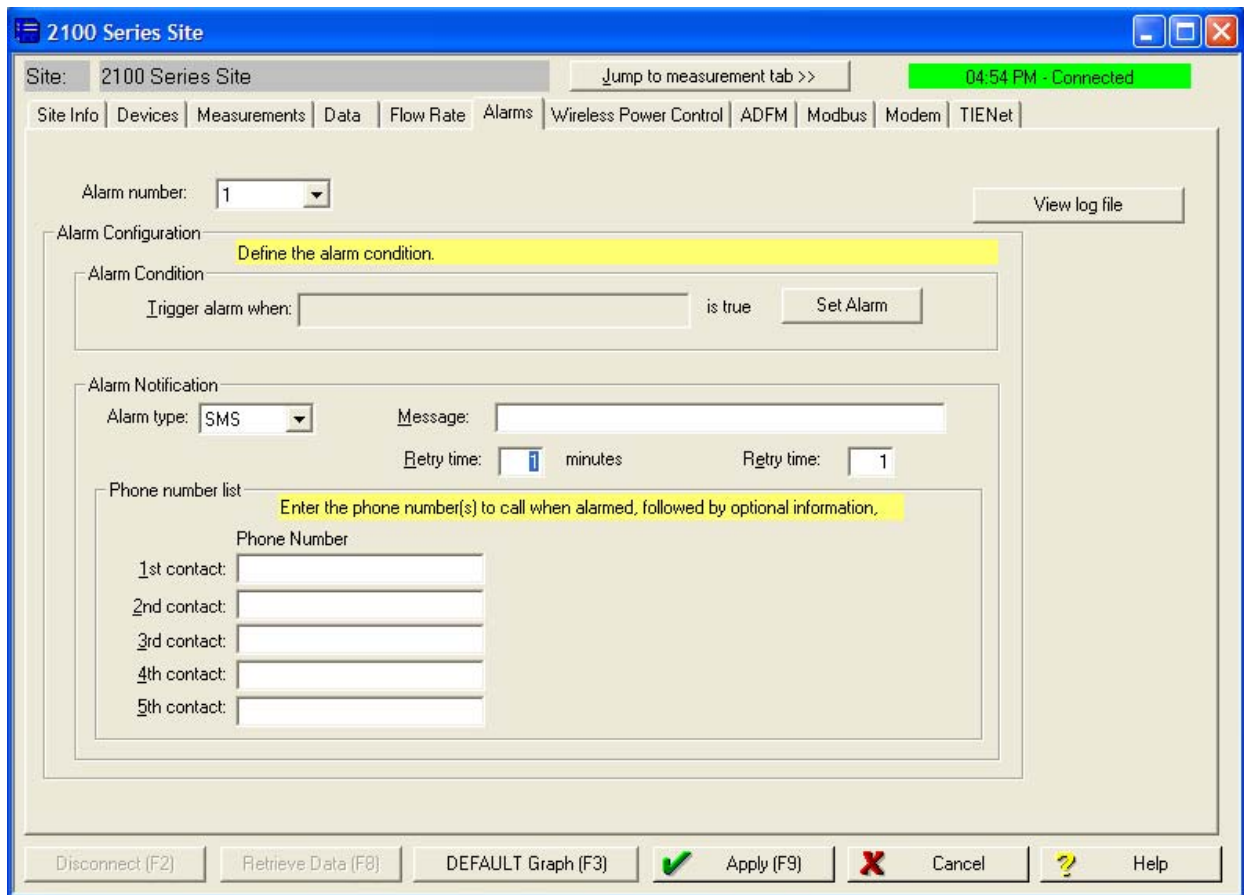

Figure 2-14 Setting up text messaging and alarm conditions
1. Make sure you are connected to the site, and select the Alarms tab (Figure 2-14).